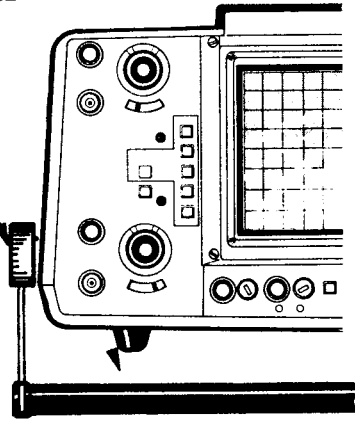

Figure 3-2. Carrying handle positioning.
**d. Carrying Handle Positioning.** The instrument handle can be positioned for carrying or as a tilt stand. There are several detent positions provided for convenient carrying or viewing. The instrument may also be set on its rear-panel feet for operation or storage. To position the handle (see CAUTION below), press in at both pivot points (see Figure 3-2) and position the handle to the desired position, then release the pivot points.